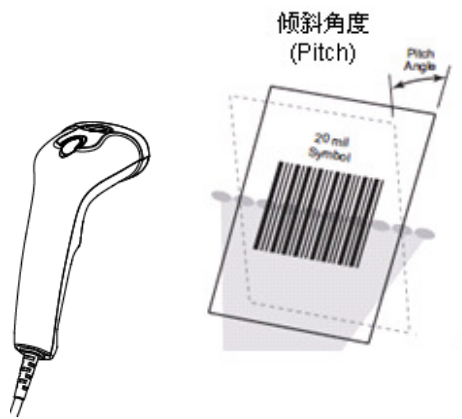

Fig. 1-7
- ◇ Pitch :  $\pm 60^\circ$ ,  $0^\circ$  Roll and  $0^\circ$  Skew (Fig. 1-7)